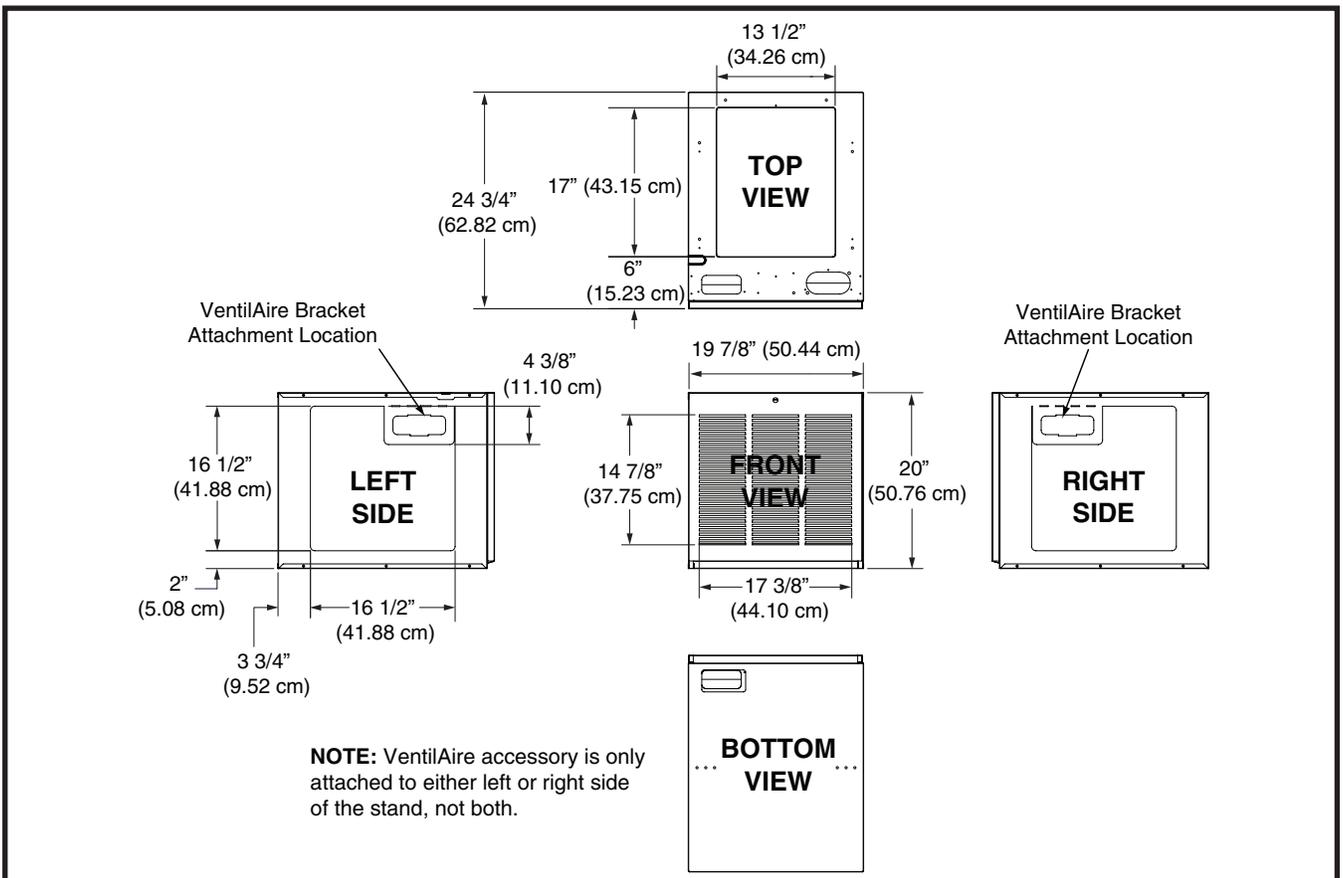

Figure 20. E7 Appliance Upflow Stand Dimensions
- The thermostat should be mounted about 5 feet (1.5 m) above the floor on an inside wall. DO NOT install the thermostat on an outside wall or any other location where its operation may be adversely affected by radiant heat from fireplaces, sunlight, or lighting fixtures, and convective heat from warm air registers or electrical appliances. Refer to the thermostat manufacturer's instruction sheet for detailed mounting information. See Figure 20 (page 14) for typical thermostat connections.
NOTE: Installation of at least a four-wire thermostat circuit is required. However best practice is to use five-wire for future addition of a heat/cool thermostat. Any unused thermostat leads must be properly capped. See Figure 20 (page 14) for various thermostat connections.